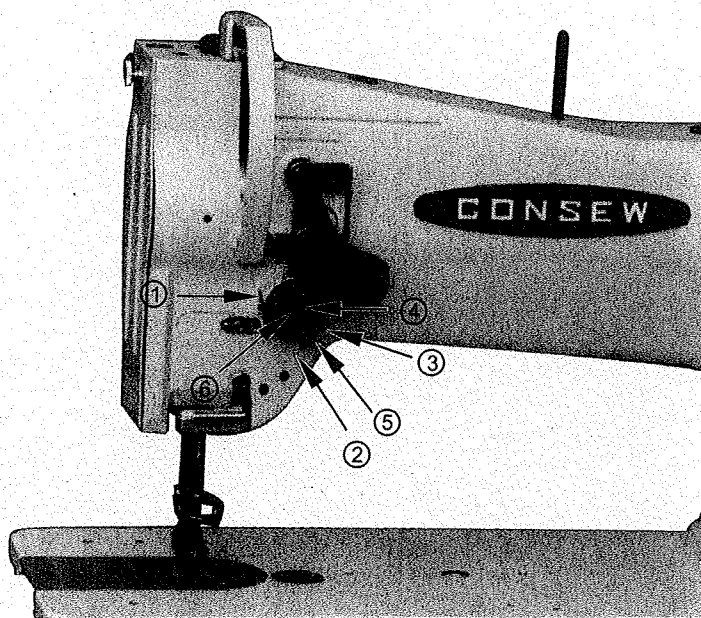

Fig. 24
Normally, the thread controller spring (①, Fig.24) should hold slack of the upper thread until the needle reaches to the goods, and it should pause while raising of the needle and passing of the upper thread through the bobbin case.
Loosen the stop screw (②, Fig. 24), move the stop (③, Fig. 24) to the right (For less action, move it to the left). Tighten the screw.
Loosen the serrated nut (④, Fig. 24) and the screw (⑤, Fig. 24).
Turn the tension stud (⑥, Fig.24) slightly to the left to strengthen the tension (to lighten the tension, turn to the right) with a screw driver. Tighten the screw and nut upon completion of adjustment.